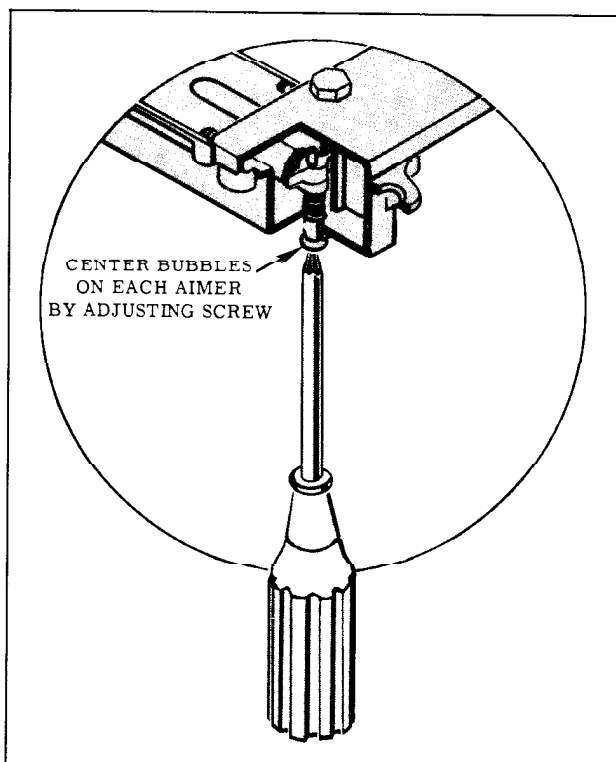

Fig. 13-83 Aimer Vertical Adjusting Screw
- If the bubble is not centered, adjust screw (Fig. 13-83) on the bottom of the aimer until the bubble is centered. The aimer is now calibrated vertically for a level floor.
5. Recalibrate aimers by turning screw shown in Fig. 13-83, until the bubble is centered.